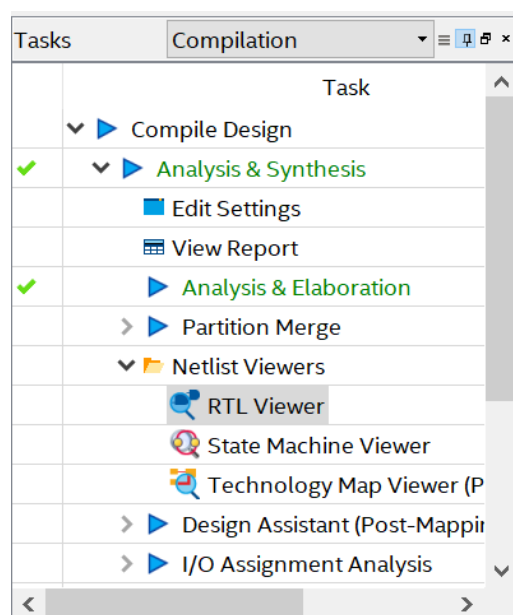
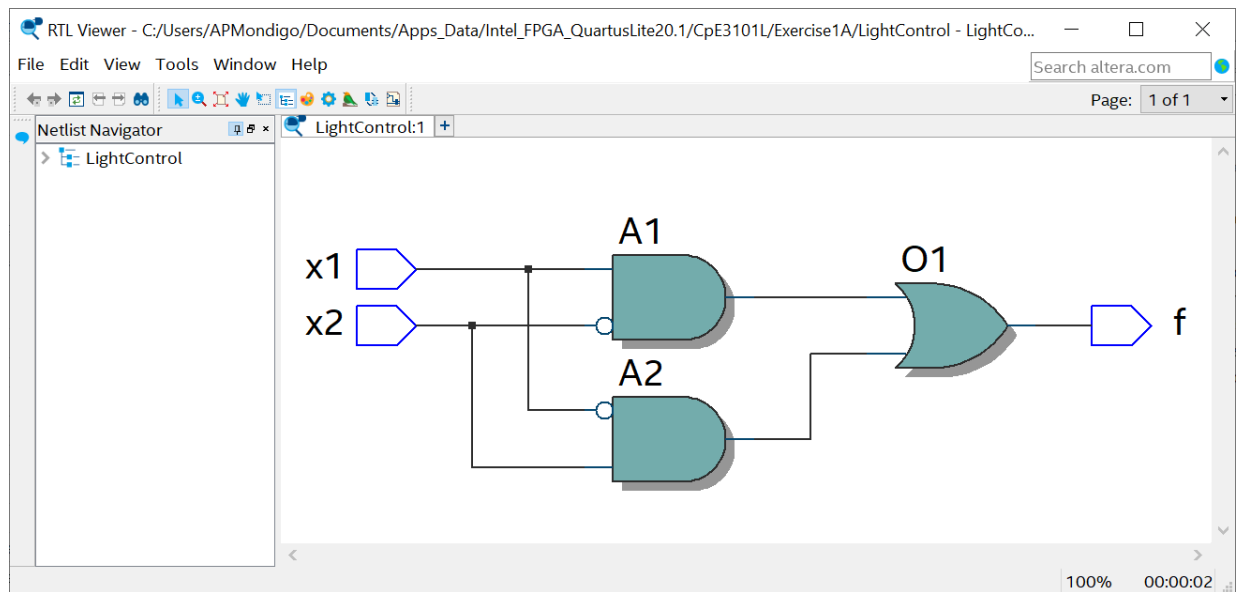

Figure 16. RTL Viewer
Figure 17. Synthesized Schematic Diagram for LightControl.v (as seen in RTL Viewer)
- To briefly see the synthesized circuit, you may do so by expanding the **Analysis & Synthesis** button. Under **Netlist Viewers**, click **RTL Viewer**. This is shown in Figure 16. **RTL means register transfer level** and the **RTL Viewer** allows a preview of the schematic design netlist (*i.e., interconnections of logic elements and other components*) after synthesis. However, this view is not the final structure of the design, since not all optimizations are included in synthesis. Instead, this is the closest possible view to the original design. See Figure 17 and compare it with Figure 9.
- **Schematic Diagram of Synthesized Circuit** using RTL Viewer (such as in Figure 17)